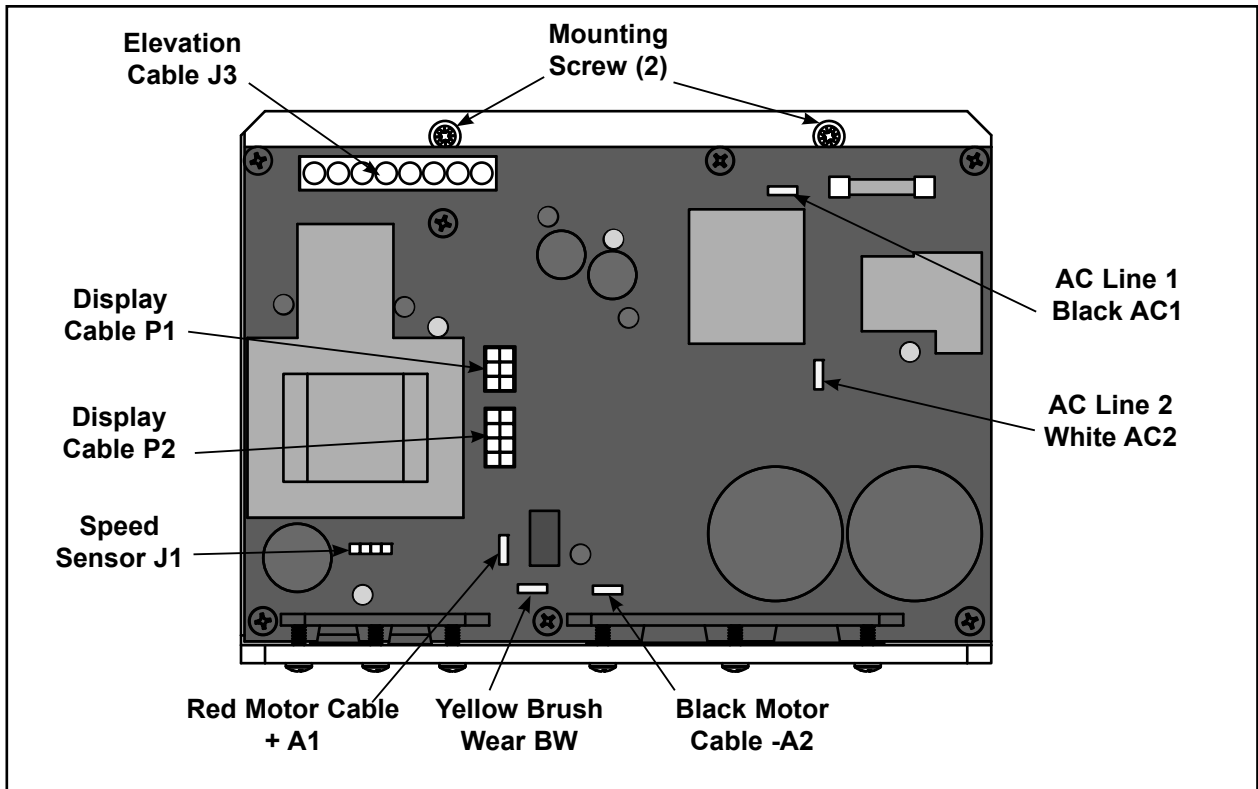

Figure 20b
A. Disconnect the cables from the lower control board. This includes: the elevation cable (J3); display cable (P1); display cable (P2); speed sensor (J1); AC line 1, black (AC1); AC line 2, white (AC2); drive motor cable + red (A1); drive motor cable - black (A2) and brush wear cable yellow (BW). See Figure 20b.
- D. Using a Phillips screwdriver, remove the two screws that hold the lower control board to the motor base plate. See figure 20b.